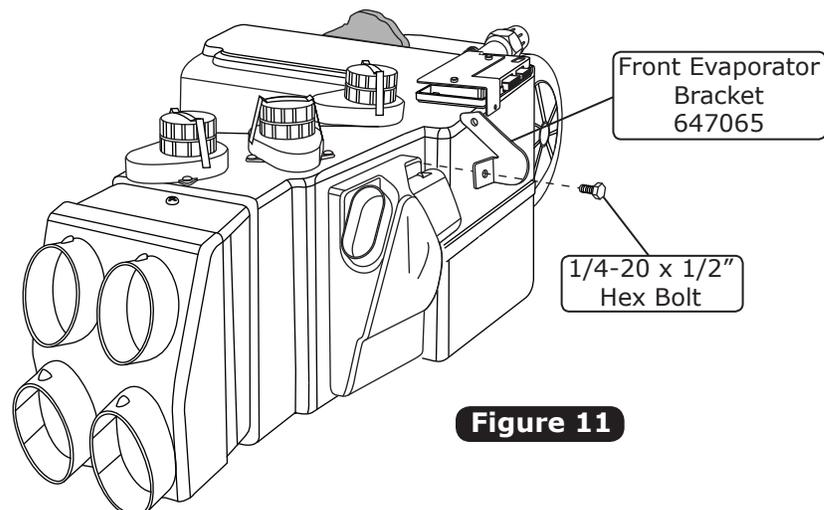
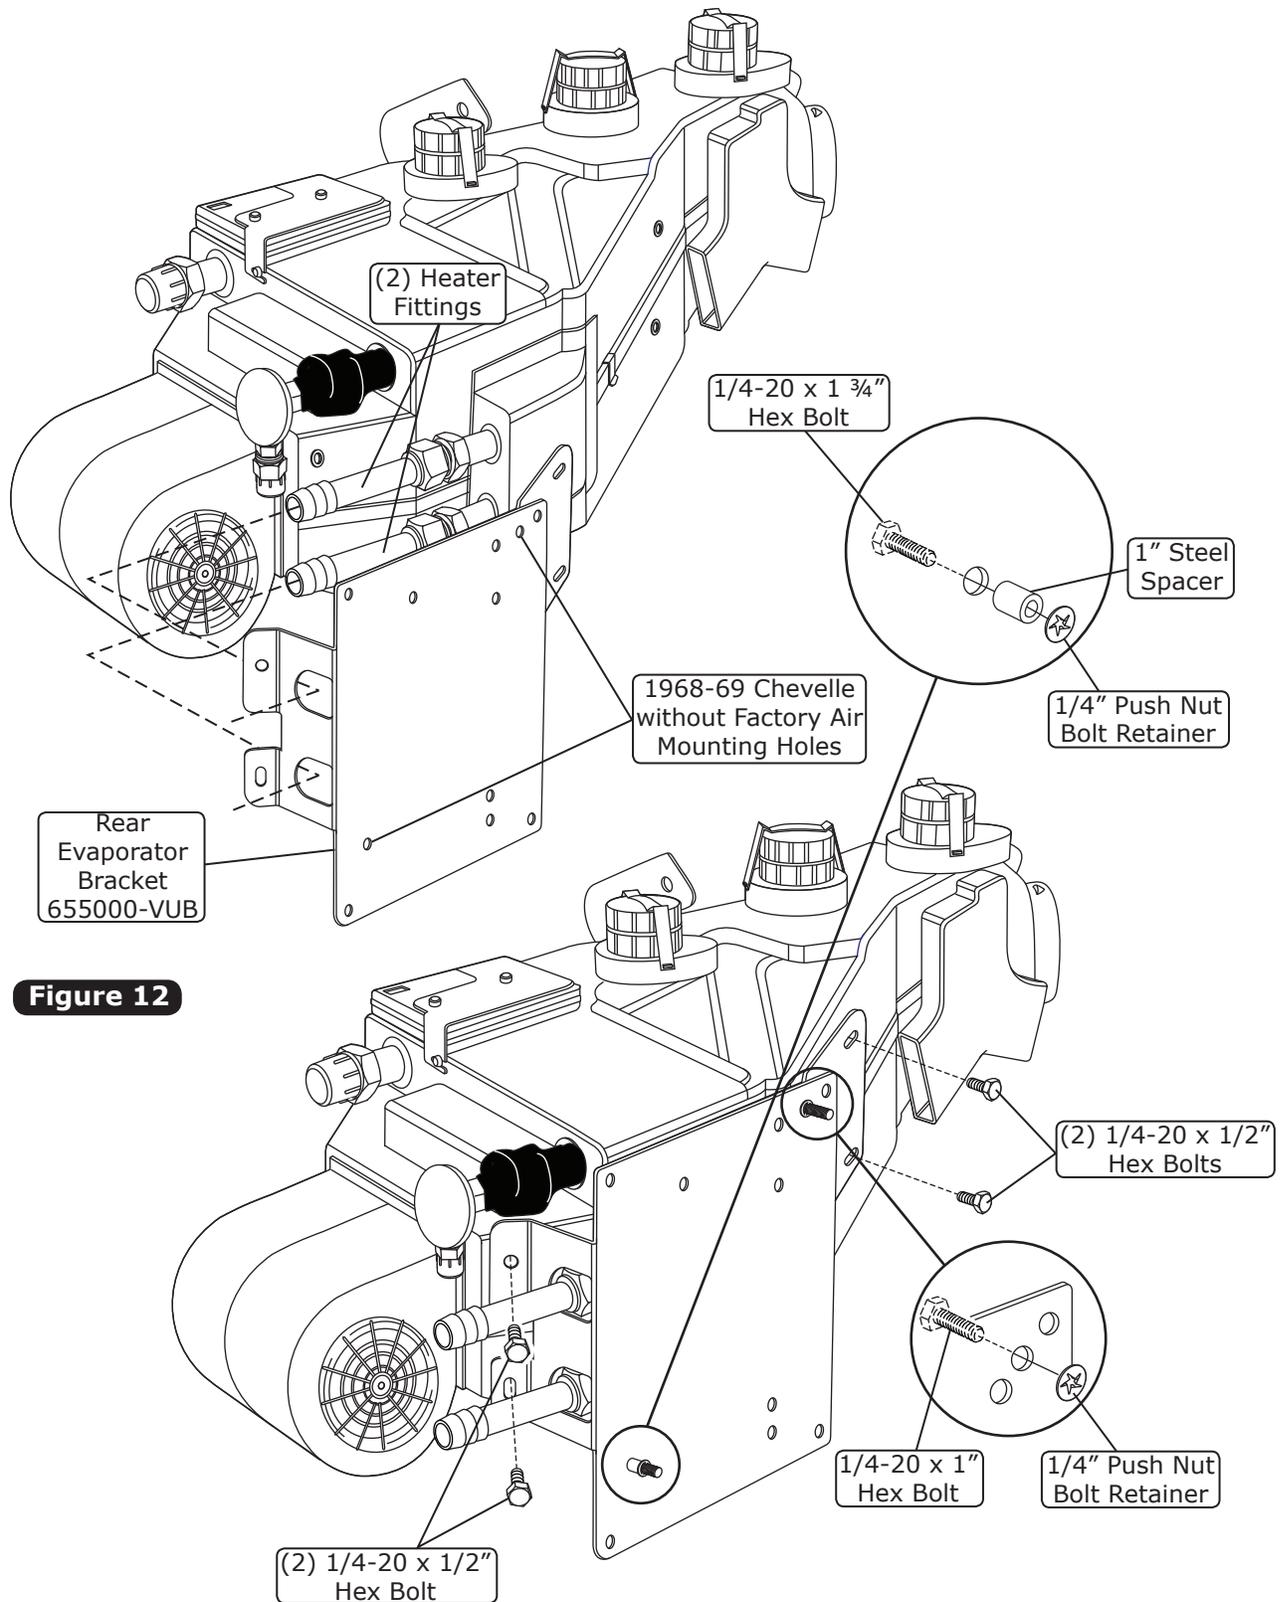

Figure 11
Figure 12
1. On a workbench, install (2) heater fittings with properly lubricated O-rings (See Figure 18, Page 15, and Figure 12, Page 12).
2. Install a 1/4-20 x 1" hex bolt and a 1/4-20 x 1 3/4" hex bolt with 1" aluminum spacer and (2) 1/4" push nut bolt retainers onto the evaporator rear bracket as shown in Figure 12, Page 12.
3. Install the evaporator front & rear mounting brackets onto the evaporator using (5) 1/4-20 x 1/2" hex bolts as shown in Figure 11, below, and Figure 12, Page 12.